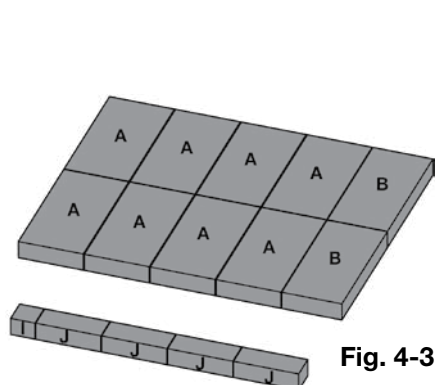
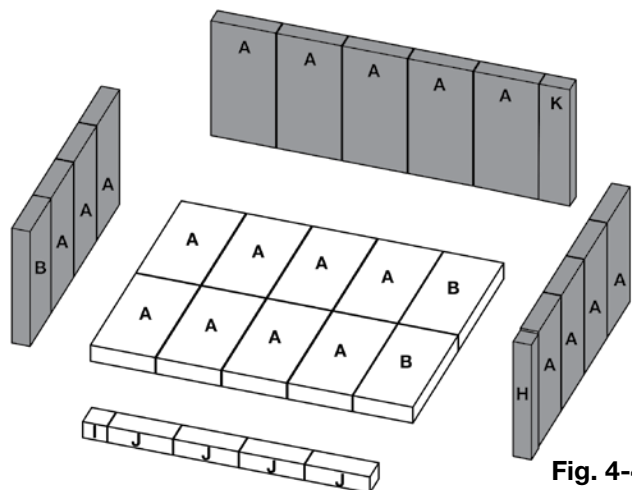

Fig. 4-3
Fig. 4-4
- A.** Install eight “A” bricks, two “B” bricks, one “I” brick, and four “J” bricks along the bottom of the firebox, working from the back of the appliance forward (**Fig. 4-3**). Install five “A” bricks and one “K” brick along the rear of the firebox, then install three “A” bricks and one “B” brick along the left side of the firebox, and finally install four “A” bricks and one “H” brick along the right side of the firebox (**Fig. 4-4**).